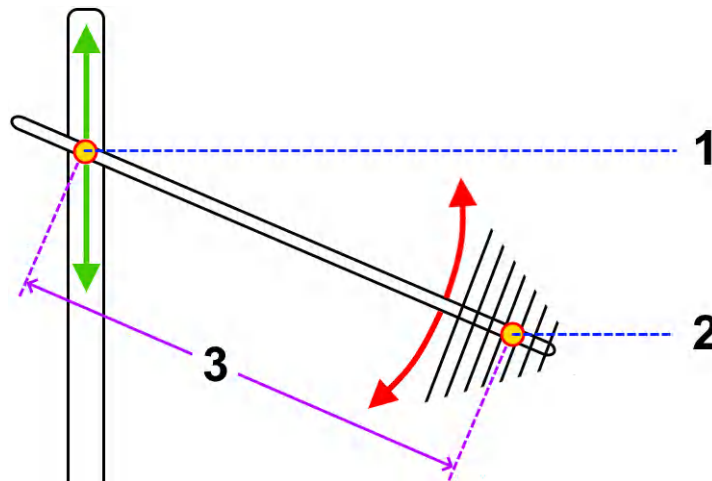

Figure 4-48: Reference points in an automated tilt-mast setup
Typical automated test systems use a motorized tilt mast as in Figure 4-48, for example in the optional substitution measurement step (see Flow Schema) in RSE tests. If your test system uses such an automated tilt mast, calculating the tilt angle at the controller and the free-space attenuation between EUT and antenna requires the following input information:
- *Measurement distance* from the EUT to the antenna reference point in Figure 4-48. Must be entered by the system operator, see "Measurement distance".
- It is in the **mast** - see **1** in Figure 4-48
- It is in the **antenna** - see **2** in Figure 4-48